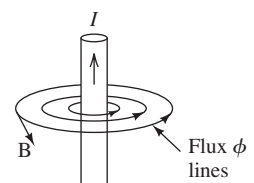

FIGURE 12.2 Magnetic field around a wire.
Magnetic fields are created around current-conducting wires and permanent magnets. The field is created by electrical charges in motion. In a permanent magnet, this charge in motion is caused by the spin of electrons in the atoms. If the direction of motion of each electron is random, the atomic fields created by the random movement will cancel each other, and the overall structure will not have any magnetic property. If all electrons spin in the same direction, the atomic fields aid each other, producing a net external effect. This produces a magnetic property in the structure. In a wire, the field is created by the flow of charge (i.e., current) in the wire. The magnetic field can be visualized as lines of magnetic flux that form closed paths. Figure 12.2 represents a magnetic field (flux lines) created around a wire that carries current.
Vector $\mathbf{B}$ represents the magnetic flux density, in webers per square meter (Wb/m²) or teslas (T). The flux density, vector $\mathbf{B}$, has a direction tangent to the flux lines as shown in Figure 12.2. Vector $d\mathbf{A}$ is the increment of area on the surface. Here, $d\mathbf{A}$ is perpendicular to the surface. If the magnetic flux density is constant over the surface and perpendicular to the surface, using Equation (12.1), the flux can be simplified to: